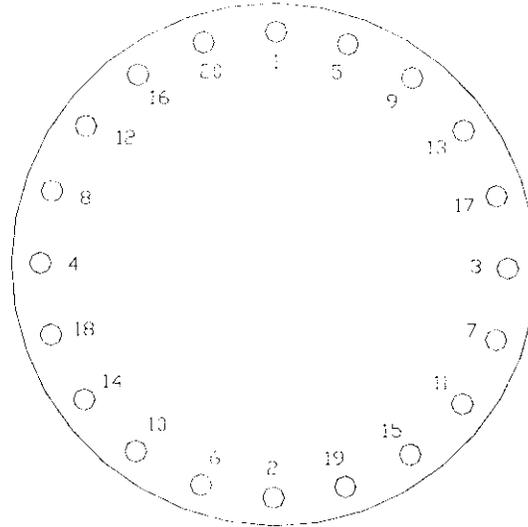

Figure 1.24 Tightening sequence for the 20 Conflat bolts.
- 1.24 On the power lead flange, number the Conflat bolt holes 1 through 20 as indicated by Figure 1.24.